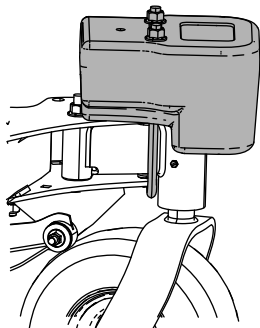

Figure 22
**Note:** For Multi Force machines with a 52-inch deck, use the long U-bolt. The weight will rest on top of the frame (Figure 22).